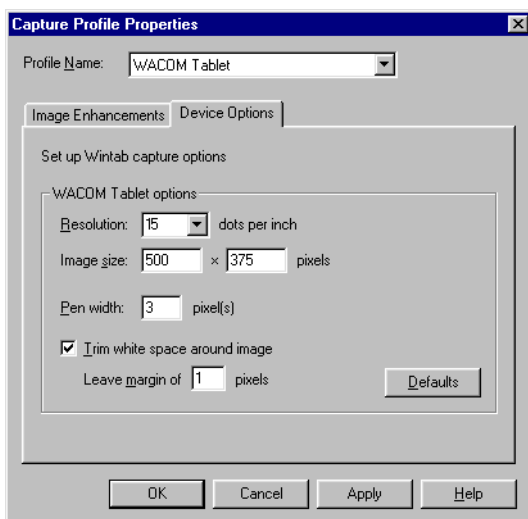

Figure 29: Device Options
4. The Perform Automatic Enhancements check-box should be blank, allowing you the flexibility to edit a signature image if necessary. Click on the Device Options tab. The Device Options tab appears (see Figure 29).
- To ensure the proper aspect ratio for digital signatures, the tablet options must be set as displayed in Figure 29 on page 22.